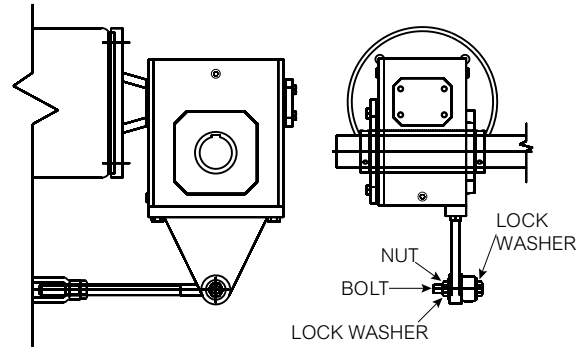

Figure 11 — Install Torque Arm Assembly
- 7.0 Install the torque arm assembly to the Omnibox mounting bracket as shown in Figure 11. Install the provided bolt, lock washers and nut, apply Loctite 242 or equivalent to threads. Tighten the bolt until seated against the mounting bracket.